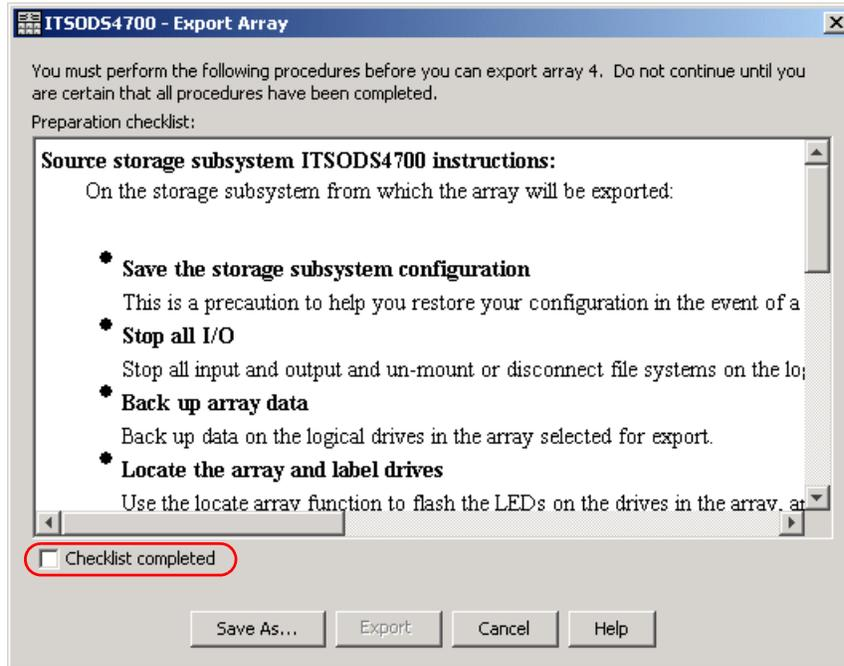

Figure 12-37 Exporting array instructions
3. The Export Array option opens a window detailing the steps to cover before continuing the operation, as shown in Figure 12-37.